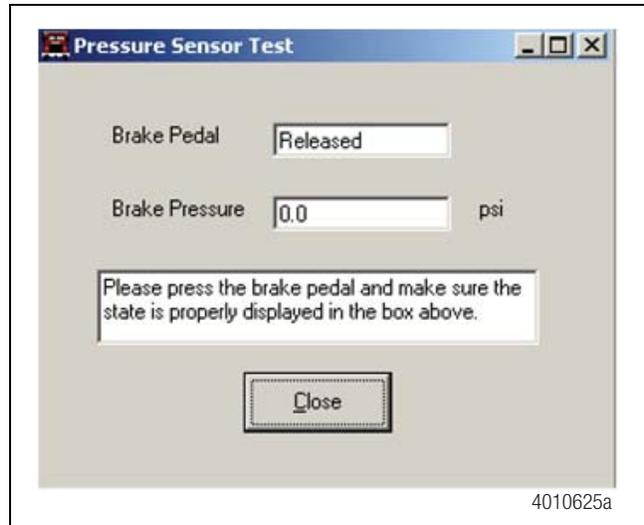
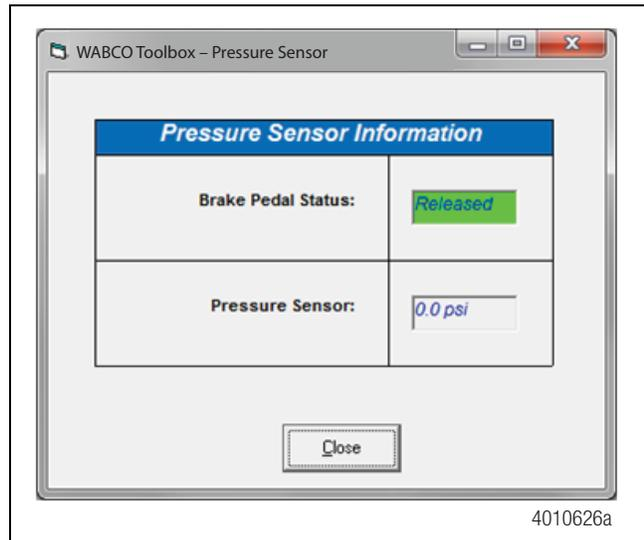

Figure 3.30
Figure 3.31
- Ensure brake pedal position and pressure is displayed in the corresponding boxes. Figure 3.30 and Figure 3.31.